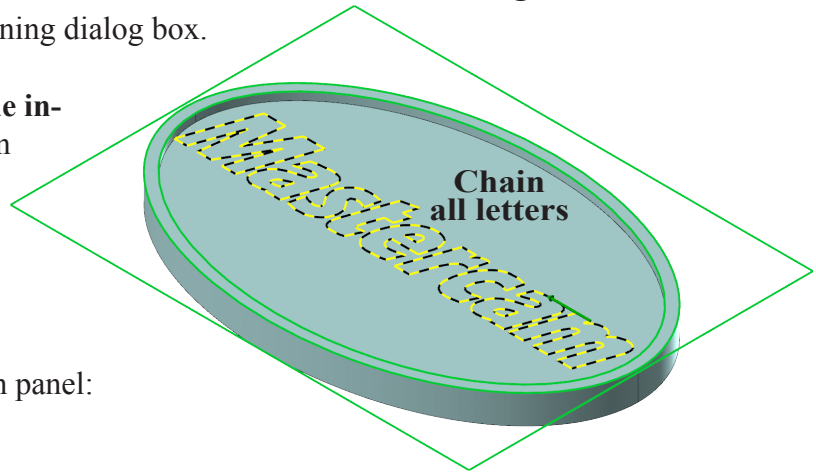

Fig. 21
Step 3. Click **each letter** and **include inner geometry of a's and e** in chaining, Fig. 21.